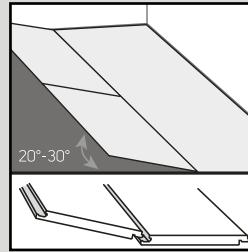
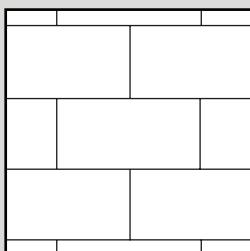
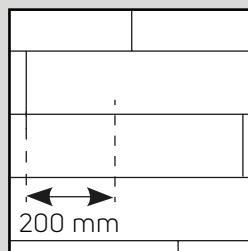

Fig. 3
Fig. 3a
Fig. 3b
4. Start the second row by clicking the tongue into the groove holding the plank at an angle (approximately 30°), then push the plank/tile firmly into the groove of the first row. Install the next plank/tile by clicking the tongue and groove together along the short edge. Ease the tongue and groove together on the long side by angling the planks/tiles together (Fig. 3). Tiles and planks should be installed 'off-set' such that four corners never meet (Fig. 3a and Fig. 3b).